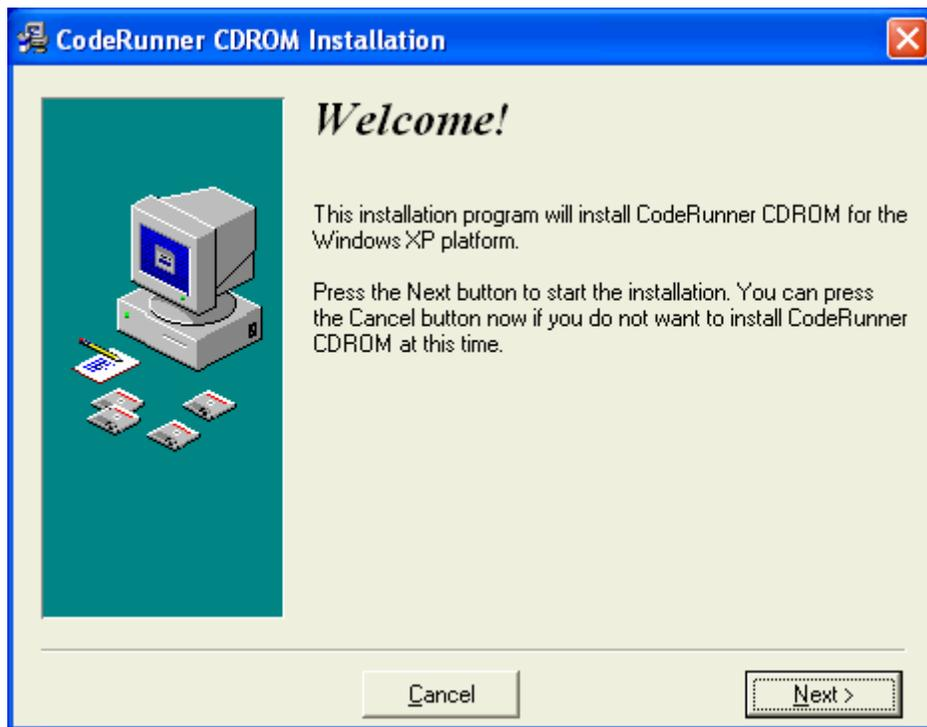

Figure 2-2. Initial Setup Screen
Figure 2-2. Initial Setup Screen.....	2-3
4. Click on the **OK** button in the **Run** dialog box and follow the installation program instructions. The setup program will first display the window in Figure 2-2.